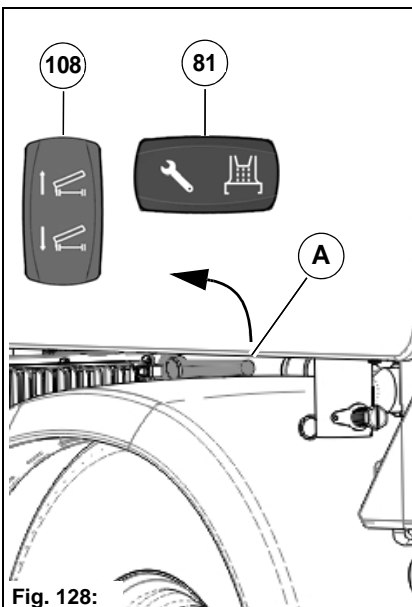

Fig. 128:
3. Open the hand valve **Fig. 128-A** and drain the circulating water from the dirt hopper.
4. Close the hand valve **Fig. 128-A** and close the valve with the switch **Fig. 128-81** again.